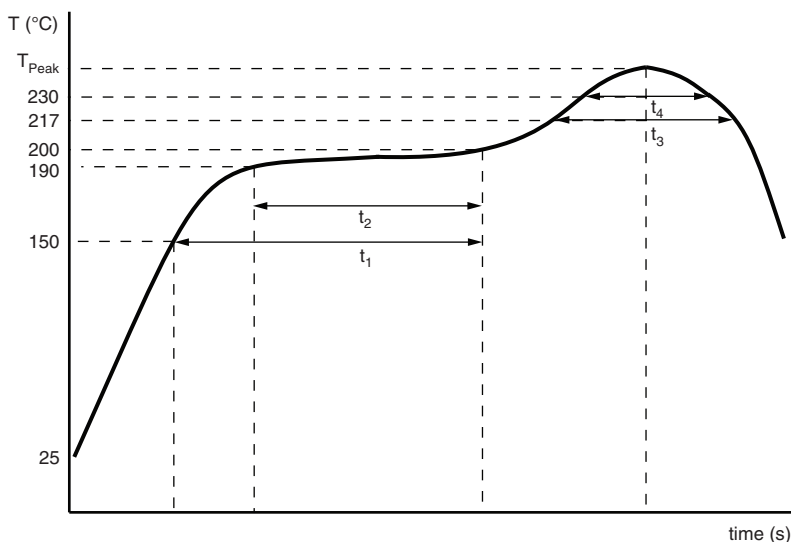

Fig. 6 - Maximum temperature load during reflow soldering
For maximum conditions refer to Fig. 5 or Fig. 6.
(2) Advanced reflow soldering profile, according to JEDEC J-STD-020, see Fig. 6 and Table 5
(3) Determines the applicable row in the table "Endurance Test Duration and Useful Life"